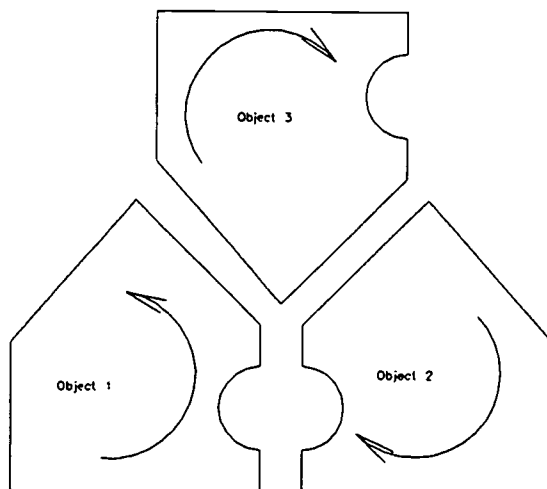

Figure 6
6. Note the current cut direction the three objects as shown in figure 6. Perform a **Show_Path** to verify.